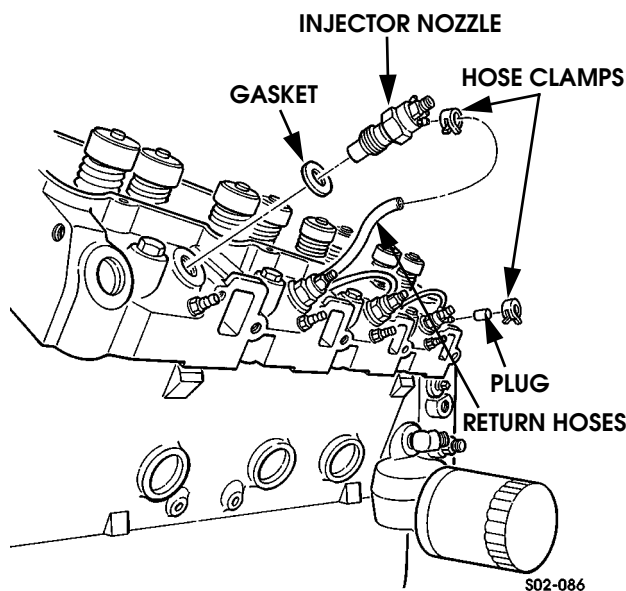

Figure 2-204: Fuel Injector Nozzle Installation
2. Install gasket on each injector nozzle (Figure 2-204).